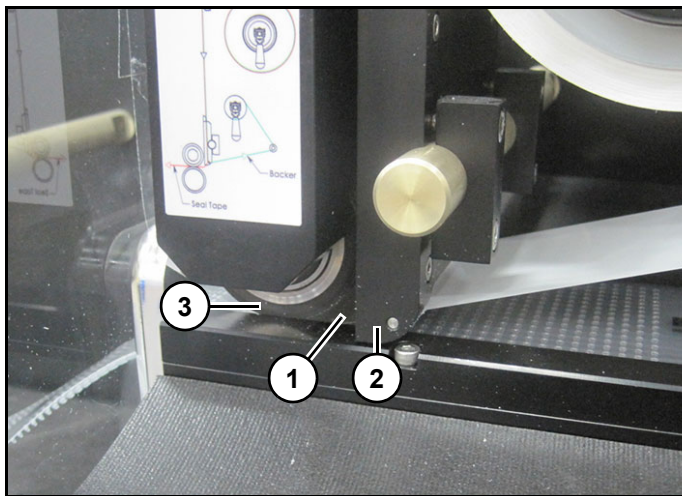

Figure 9
10. Feed clear seal tape (1) under seal tape guide (2) and nip roller (3). (Figure 9)